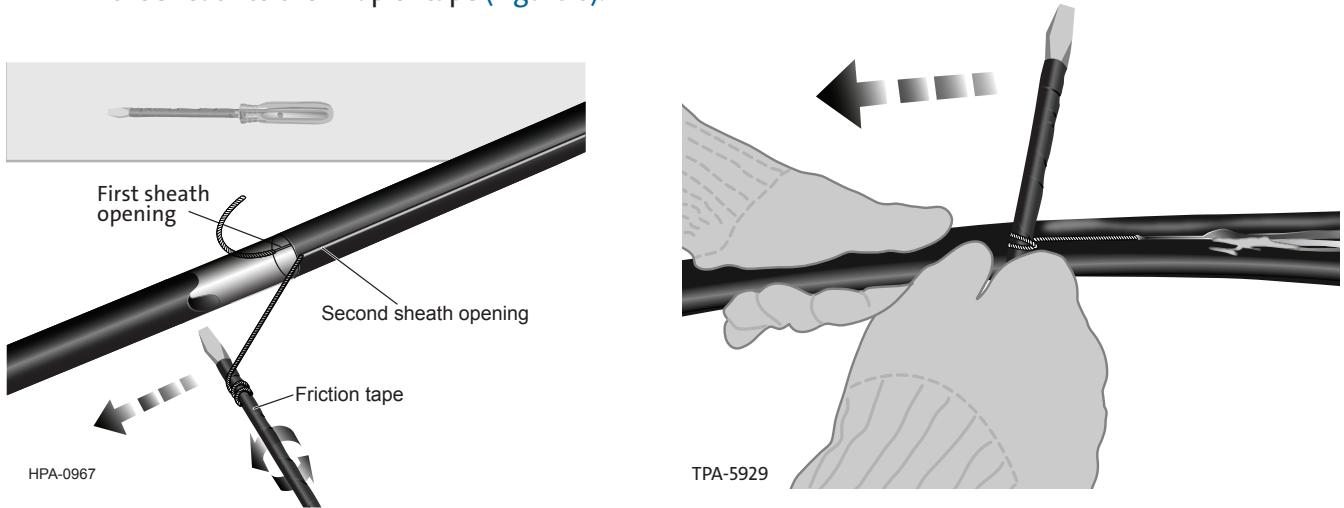

Figure 6
Step 4: Using the friction tape wrapped shaft of a screwdriver as a handle, pull one ripcord at a time through the sheath to the wrap of tape (Figure 6).